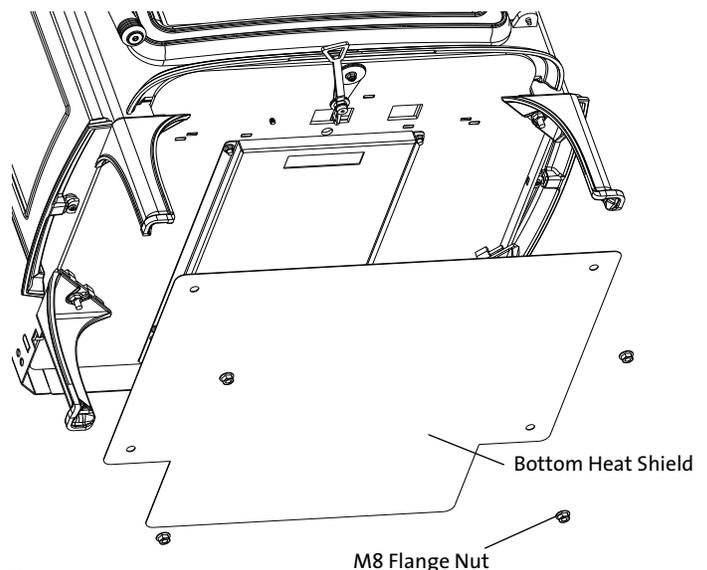

Figure 24b.
4. With the stove on the ground, place the Bottom Heat Shield over the leg studs. Use the M8 flange nuts in the kit to secure the shield to the leg studs. See figure 24b.